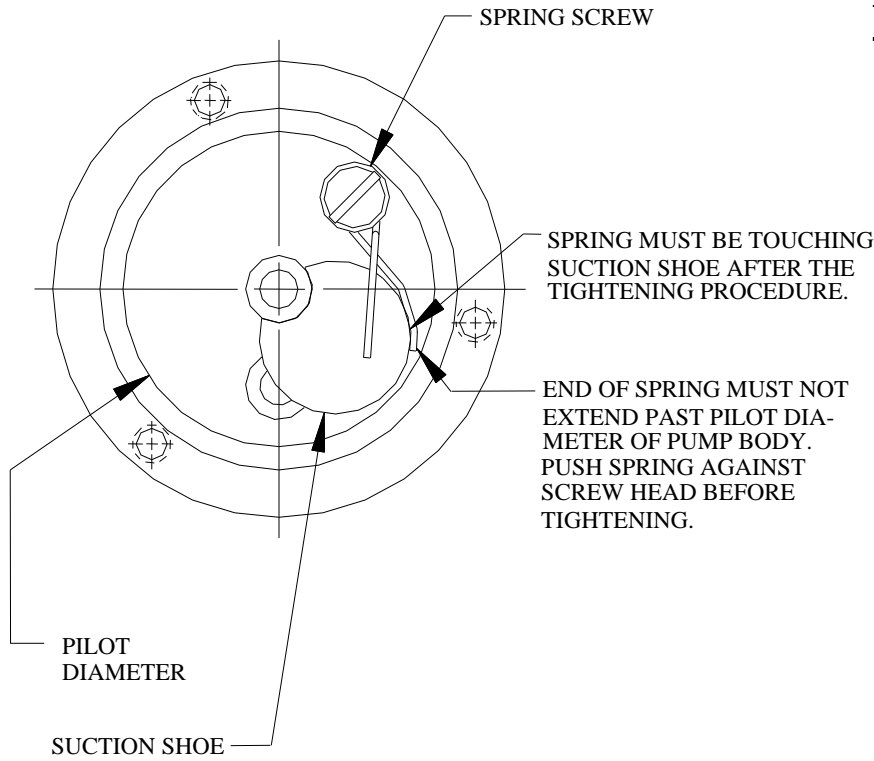

Figure 1
1. Place the gears and the suction shoe on the pump body. Affix the spring to the pump body to hold the suction shoe in place. Using screw (11) and suction shoe spring (10), put screw through the end loop in the spring so that the head of the screw is on the same side as the 90 degree bend. Now start the screw into the pump body, but do not tighten.
4. Check that the horizontal leg of the spring does not extend past the pilot diameter of the pump body when looking directly down on the suction shoe. (See Figure 1, above). If the spring does extend past the pilot, loosen spring screw and push the spring back towards the screw, and repeat steps 1 and 2.